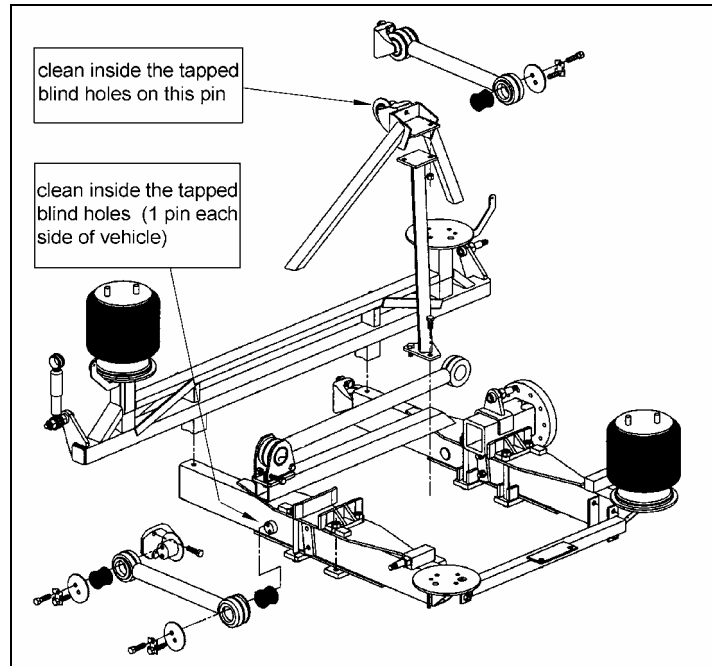

FIGURE 5: CLEANING OF 2 PINS AND THE CENTRAL SUPPORT PIN
9. Clean inside the tapped blind holes of the 3 support pins identified in figure 5. Use brake cleaner, brush #684901 and a clean clothe to dry.